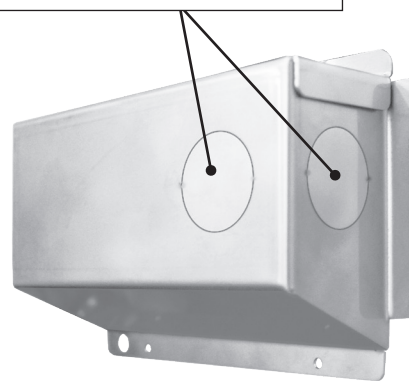

Fig. 27-2 Junction box knockouts
1. Remove the junction box located on the rear of the unit. Select and remove a knockout from the junction box that will best suit your electrical setup. See Fig. 27-2.